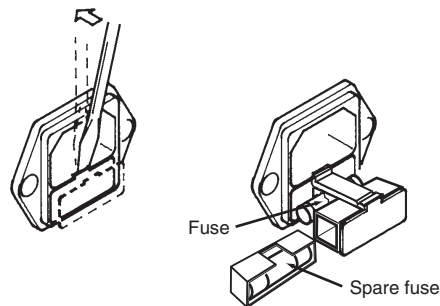

Fig.9-1 Removing the fuse holder
3. Remove the fuse holder with a standard screwdriver as shown in Fig.9-1.